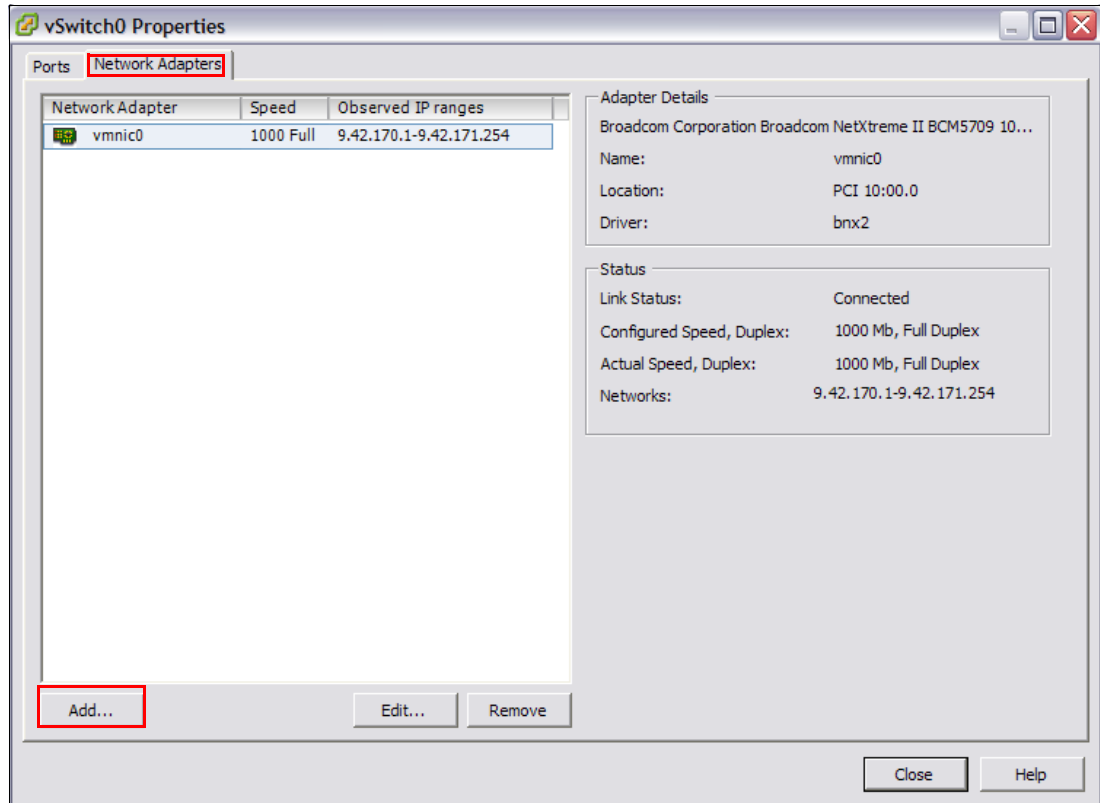

Figure 22-65 Adding Network Adapters
2. Select **Properties** for the vSwitch0, and then click the **Network Adapters** tab as shown in Figure 22-65 on page 697. Click **Add**.